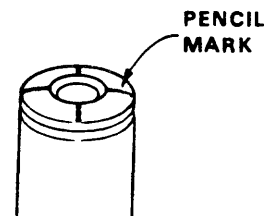

Figure 1 — Pencil X on the probe surface
- Lightly pencil an "X" across the probe's gold sensing surface. (See Figure 1.)